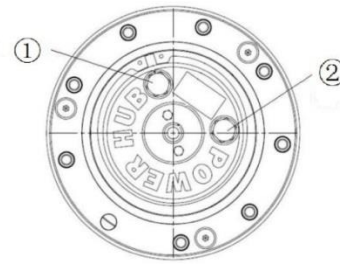

Figure 1-4 Traveling Gearbox
- Drive the machine until one plug is located at the horizontal position as shown as shown in Figure 1-4.